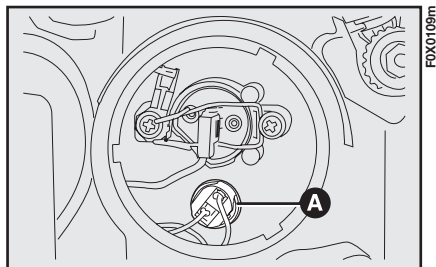

fig. 128
- remove bulb holder assembly A-fig. 128;